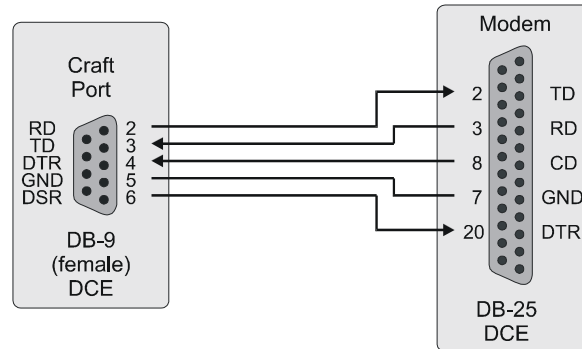

Figure 7. Front Panel Craft Port to Modem Connections
Using a cable that connects the Data Terminal Ready (DTR) signal will ensure automatic log off when the terminal is unplugged. When connecting the RS-232 port to a modem, a null modem cable should be used. Ensure that the modem's Carrier Detect (CD) and DTR functions are enabled. This will allow the modem connection to terminate properly when the PMU drops Data Set Ready (DSR) and the unit will log off when the modem drops CD. The following connections are required to make the modem work correctly (see Figure 7).